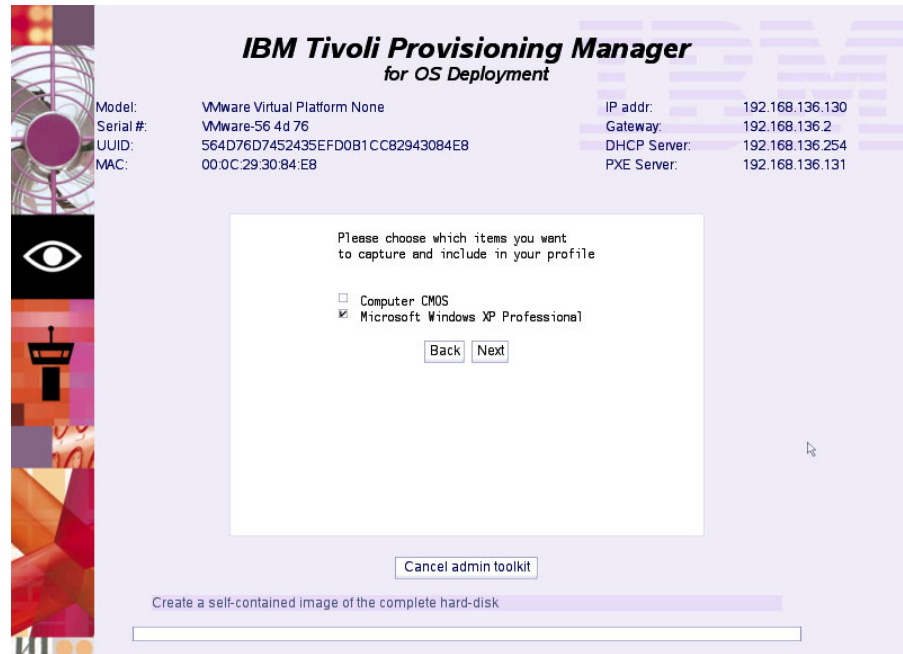

Figure 3-11 Verify the Operating system for capture
7. In the next panel, Tivoli Provisioning Manager for OS Deployment has actually scanned the system itself and detected the specific version of the Operating System installed as shown in Figure 3-11 on page 65.